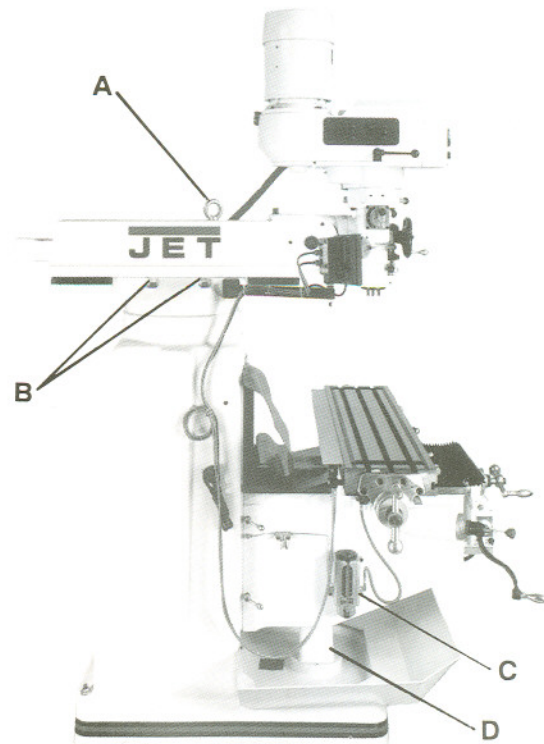

Fig.2
The method for lifting the mill is with a hook through the eye bolt (A, Fig. 2) screwed into the tapped hole on the ram. Steady the mill to prevent it from spinning.
**Note:** Tighten ram locking bolts (B, Fig. 2) before lifting.
**Note:** The JTM-1050EVS pictured in figure 2 shows DRO, and POWERFEED optional accessories available through JET.
**Oil Pump** – (C, Fig. 2) fill reservoir as needed by removing cap on top of tank and filling with 10W machine oil. Pump oil with release handle once for every hour of operation. Way surfaces and leadscrews are lubricated in this manner.
**Knee Leadscrew** – (D, Fig. 2) lubricate with #2 tube grease once weekly.